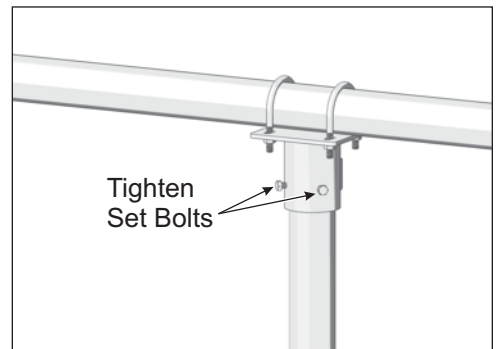

Figure 4-2: Tightening Set Bolts
- D. Tighten the two set bolts on each Top Sleeve. **Torque to 14-16 ft.-lbs.** (See Figure 4-2)